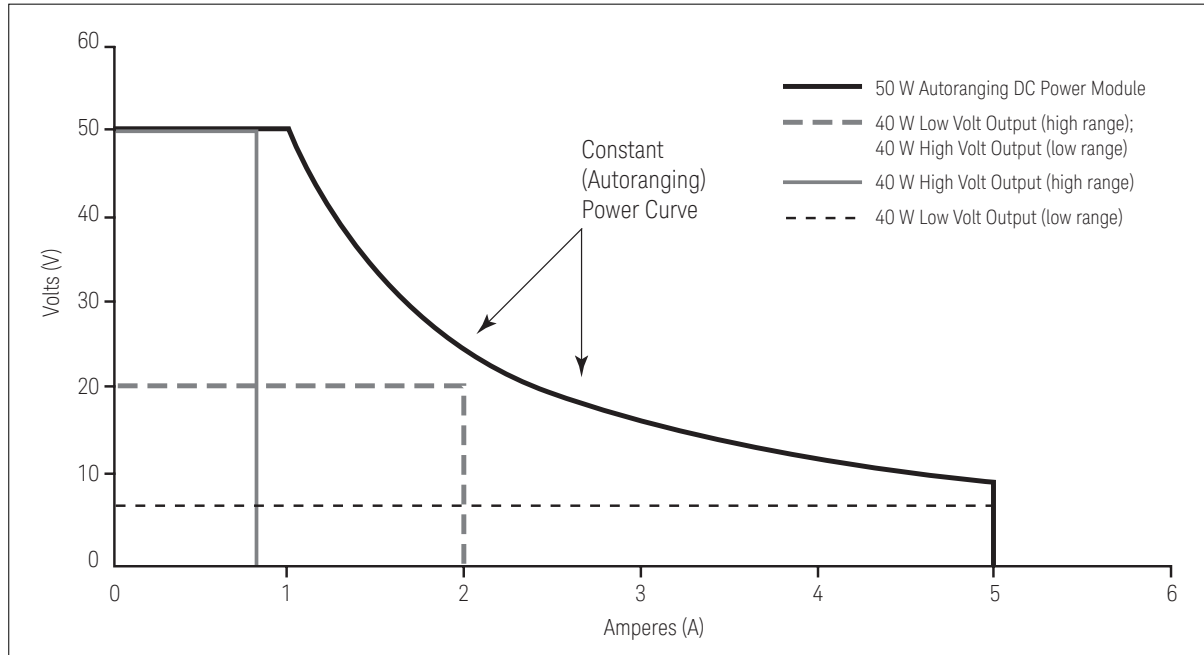

Figure A1. 50 W Comparison Graph
2. Any combination of the specified Voltage and Current that is less than or equal to the specified power rating. Appendix A, Figures A1 and A2.
3. 100 W from 12 V/8.33 A to 50 V/2 A. Between 8.33 A and 10 A, the N6752A's output power derates from 100 W @ 8.33 A to 85 W @ 10 A. Please see Appendix A, Figures A1 and A2.